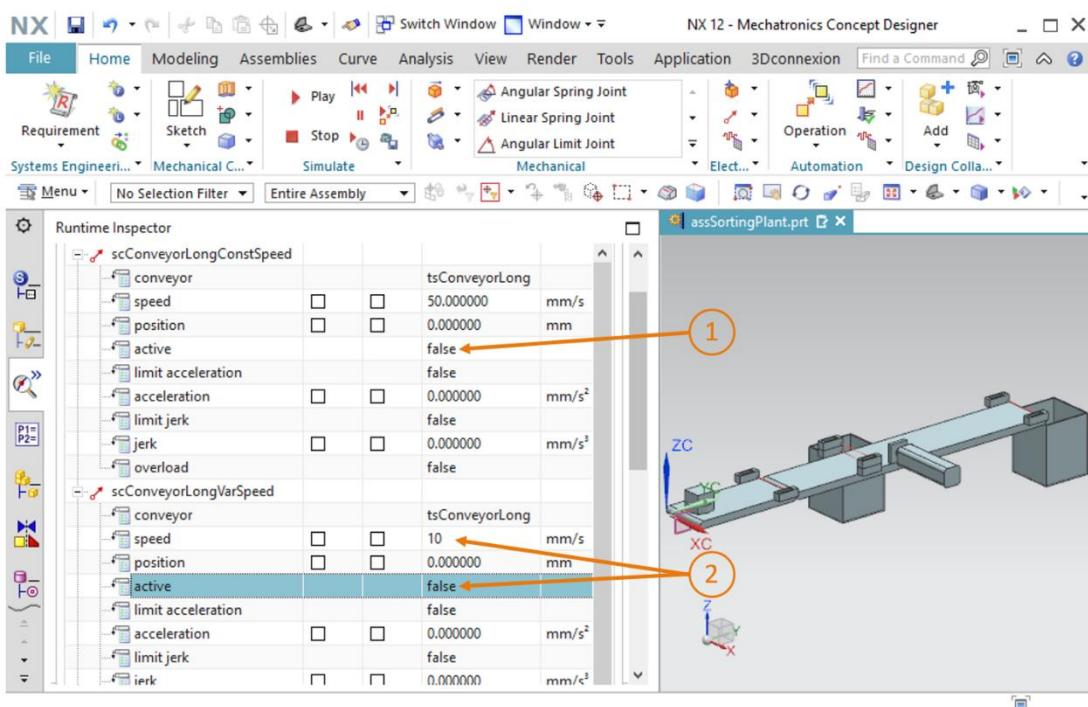

Figure 46: Preparing simulation of the speed control via Runtime Inspector
- All speed controls for the conveyor belts have now been defined. Simulate the result. Beforehand however, add the speed controls you created in this chapter to the Runtime Inspector. Proceed as described in Chapter 4.3, "Section: Adding and controlling a property in the simulation" for this. Make the following changes in the Runtime Inspector tab of the Resource bar before starting the simulation (partially shown in Figure 46):